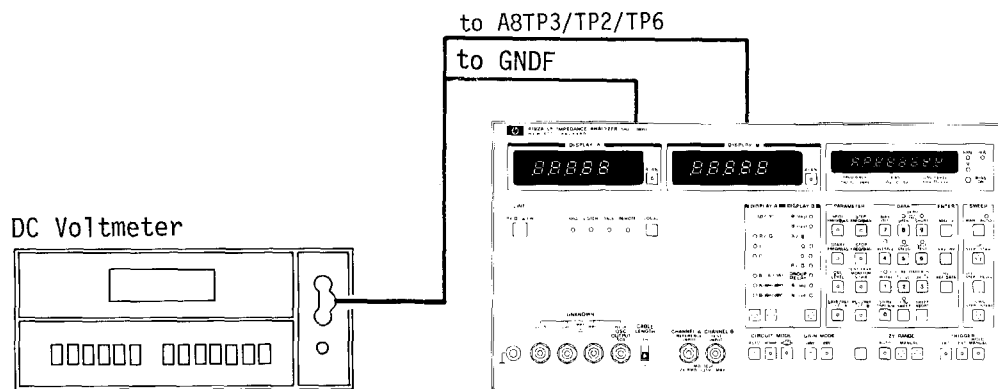

Figure 5-2. A8 DC Bias Check and Adjustment Setup.
- c. Connect the high lead to A8TP3 and the low lead to "GNDF" next to A8TP3 as shown in Figure 5-2.